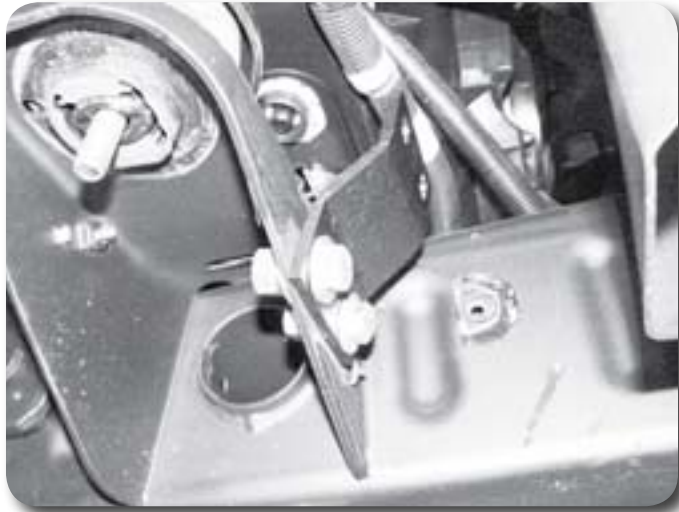

Figure 23
45. Attach the provided outer bumper support relocation brackets to the original support mount location on the frame **Figure 23**. Fasten the brackets with 7/16" x 1" bolts, nuts and 3/8" USS washers. Leave hardware loose.